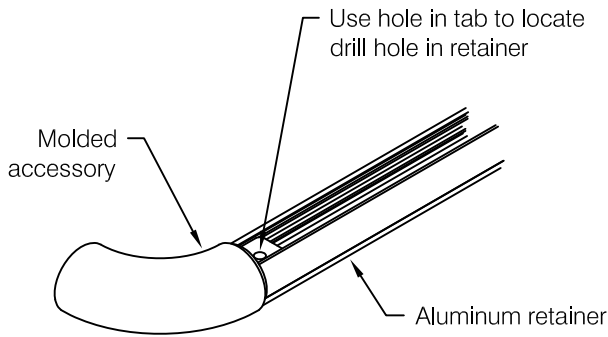

fig 3
Step 5: Insert molded accessories into end of retainer, press firmly to ensure molded part is seated squarely against the end of the retainer. Drill accessory mounting holes using the accessory as a template, see **fig 3**.